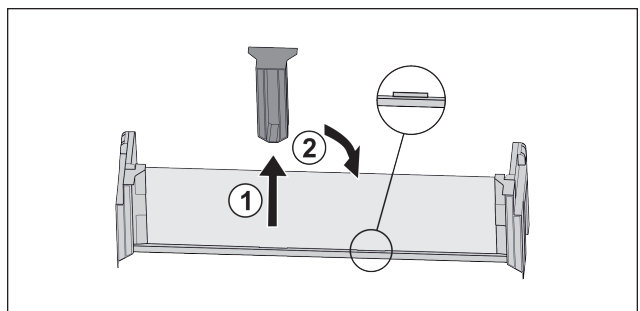

Fig. 26
- ▶ Pull off the middle holder Fig. 26 (1).
- ▶ Insert the middle holder in the second position *Fig. 26 (2)*.